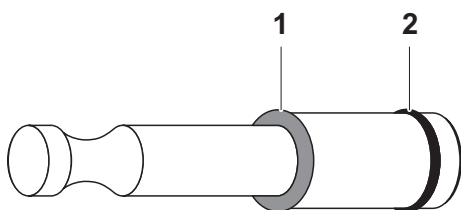

Fig. 11-1 Blind plug
If the logger is stored without the electrode, close the electrode receptacle with the enclosed blind plug to protect the plug connector from dirt and moisture. When doing so make sure that both O-rings of the blind plug are in place (pos. 1 and 2 in Fig. 11-1).